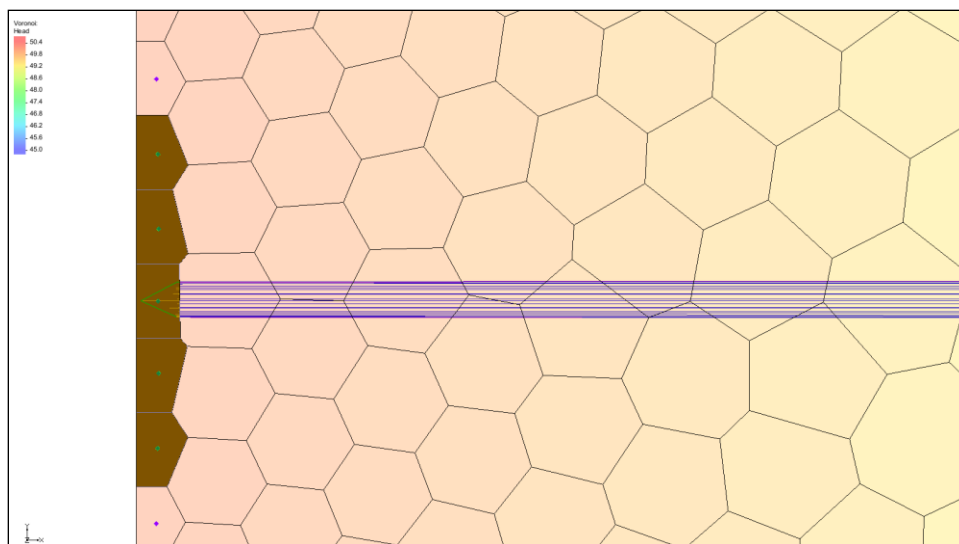

Figure 7 Selected cells on the left side of the UGrid
- Using the **Select Cells**  tool, hold down the *Shift* key and select the five cells along the left side of the grid, in the area where the existing pathlines are located (Figure 7).